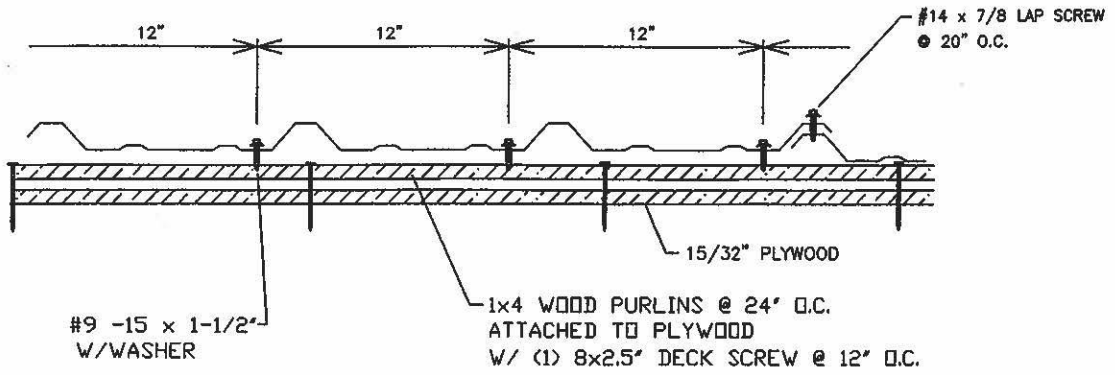
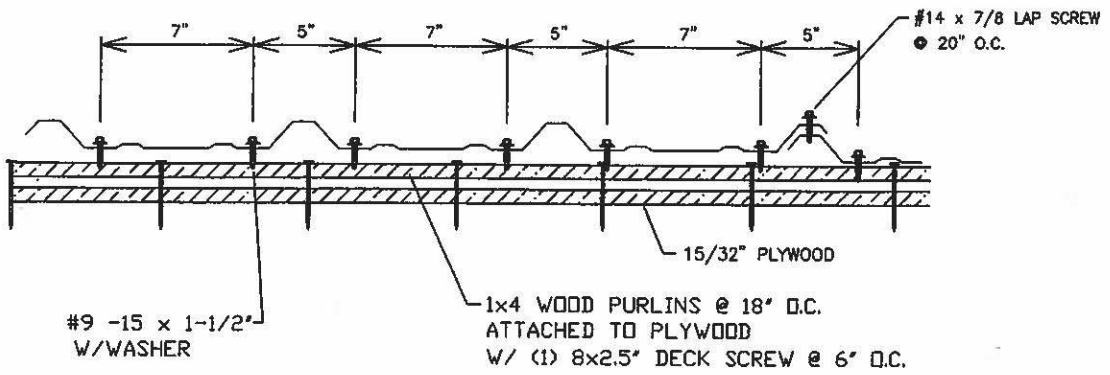

Figure 1. PBR Panel Detail (12-12-12 Fastener Pattern)
Figure 2. PBR Panel Detail (7-5-7-5-7 Fastener Pattern)
**Panels:** The PBR steel roofing panels are secured to the wood purlins as specified in Table 1 and in accordance with this section. Refer to Figure 1 and Figure 2 for an illustration of the required fastener patterns.
**Attachment of Steel Roof Panels to the Wood Purlins:** The PBR steel roofing panels are secured to the wood purlins with minimum No. 9-15 x 1-1/2" long, HWH Woodgrip screws with a sealing washer. A line of fasteners is installed as specified in Table 1. The spacing of the line of fasteners along the length of the panel (wood purlin spacing) must be as specified in Table 1. Refer to Figure 1 and Figure 2 of this evaluation report for illustrations of the fastener patterns.
**Panel Ends and End Laps to the Wood Purlins:** Minimum No. 9-15 x 1-1/2" long HWH Woodgrip screws with a sealing washer. A line of fasteners in a 7"-5"-7"-5"-7" pattern is installed. Refer to Figure 1 of this evaluation report for an illustration of the fastener pattern.